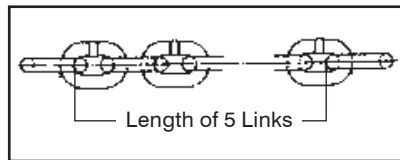

Figure 3
4. Using caliper-type gauge, measure inside length of 5 links under light tension. Refer to Figure 3. Replace chain if measurement exceeds maximum allowable gauge length as follows: